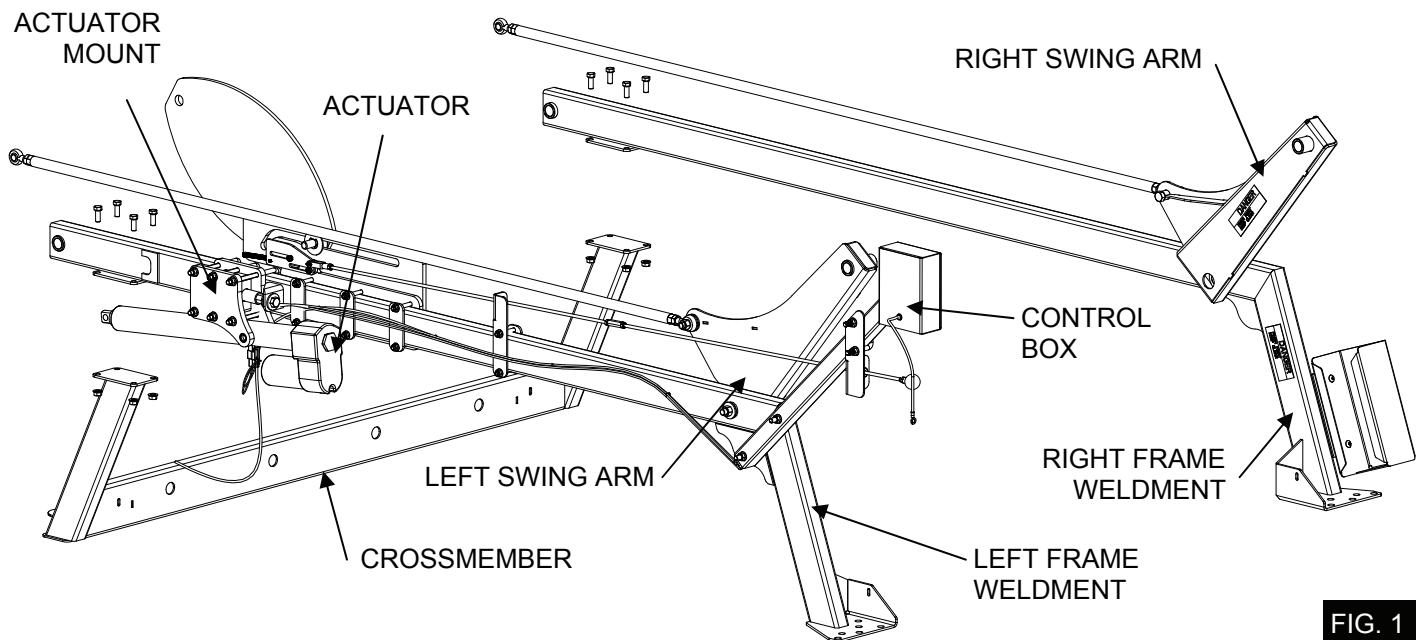

FIG. 1
- 6.2. Inside the vehicle, assemble the left and right frame weldments to the crossmember using (8) 3/8 X 1 UNC bolts and (8) serrated flange nuts as shown in **FIG.1**. Finger tighten all attachment bolts. Final tightening will be completed following installation and adjustment of the torsion arm and tie-rods.